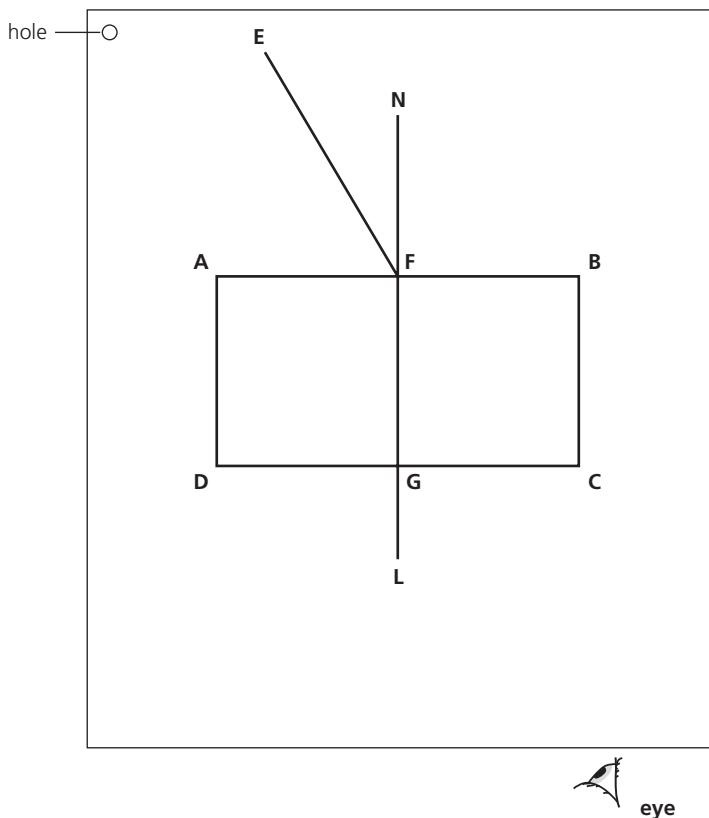

Figure 3
- a Carry out the following instructions on a sheet of plain A4 paper. Refer to Figure 3 for guidance.
- b Draw the line EF at an angle $i = 30^\circ$ to the normal as shown in Figure 3.
- Replace the block and look from the position of the eye shown in Figure 3, to observe the images of P_1 and P_2 through side CD of the block. Adjust your line of sight until the images of P_1 and P_2 appear one behind the other.